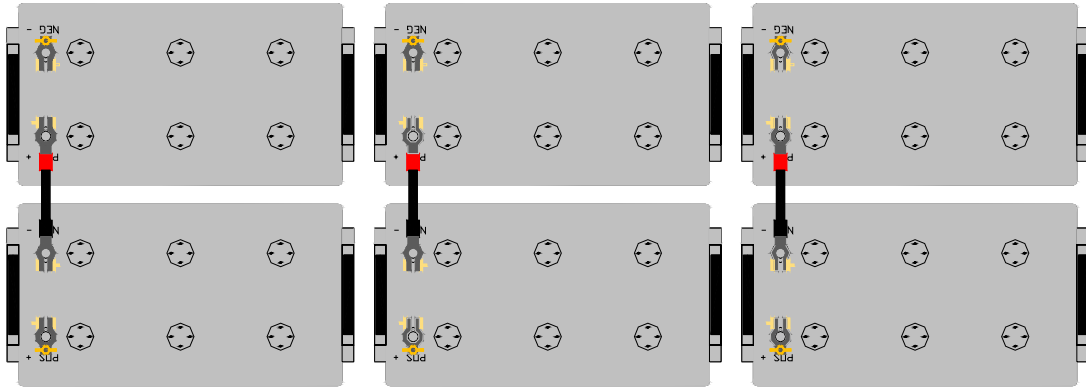

Figure 3.5: Battery Lug & Series Battery Cable Installation
- Step 3: Install the Battery lugs just removed on the NEG Battery Post closest to the wall, See Figure 3.5. The nuts on the Battery lugs require a 1/2" wrench.
- Step 5: Install the Battery lugs just removed on the POS Battery Post, See Figure 3.5. The nuts on the Battery lugs are 1/2".
- Step 6: Install the three Series Battery Cables. These cables are about 9 inches (23 cm) long with a battery lug on both ends with Red shrink on one end (Positive) and Black shrink on the other end (Negative). The end with Red shrink goes on the POS of the battery and the Black on the NEG; see Figure 3.5.